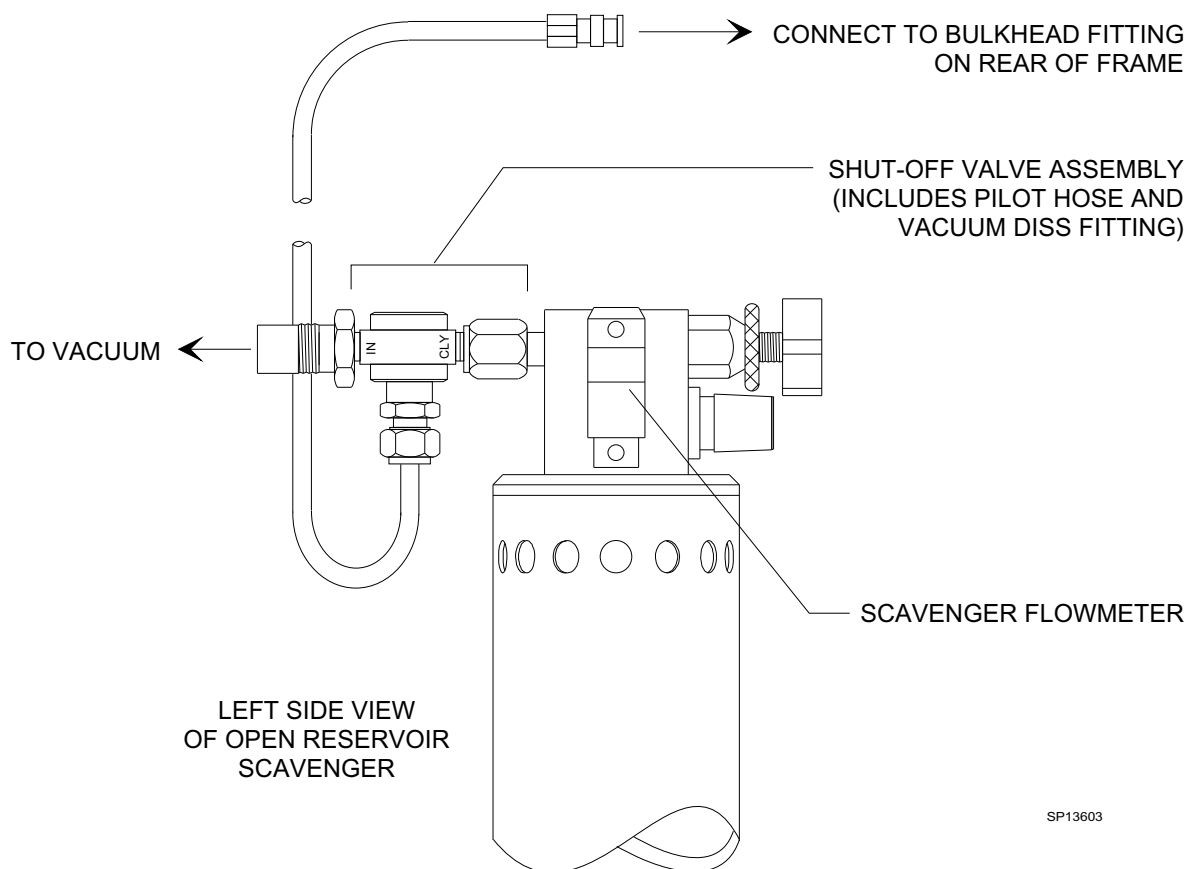

Figure 3: SHUT-OFF VALVE ASSEMBLY AND PILOT LINE CONNECTION
12. Install the shut-off valve assembly onto the vacuum DISS port of the scavenger as shown in Figure 3.